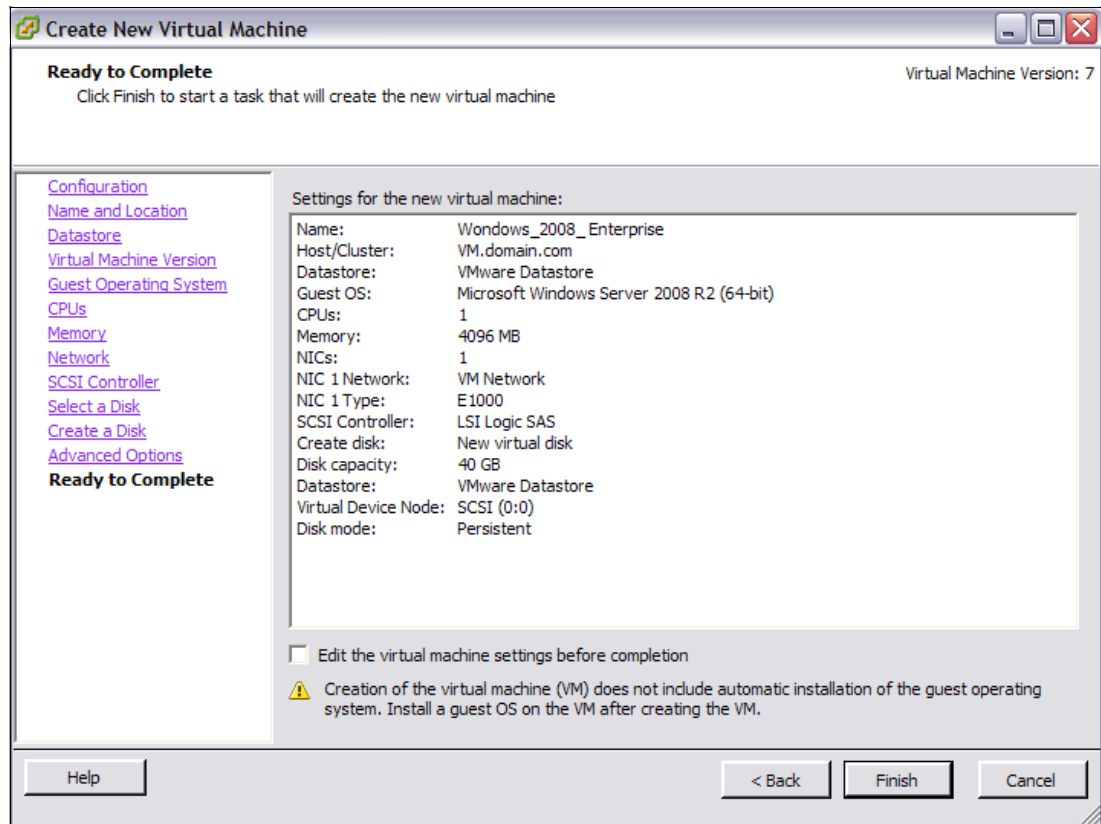

Figure 22-85 Summary screen
15. In the Summary panel (Figure 22-85 on page 717), click **Finish**. You can see the progress in the Recent Tasks pane at the bottom of the vCenter GUI.